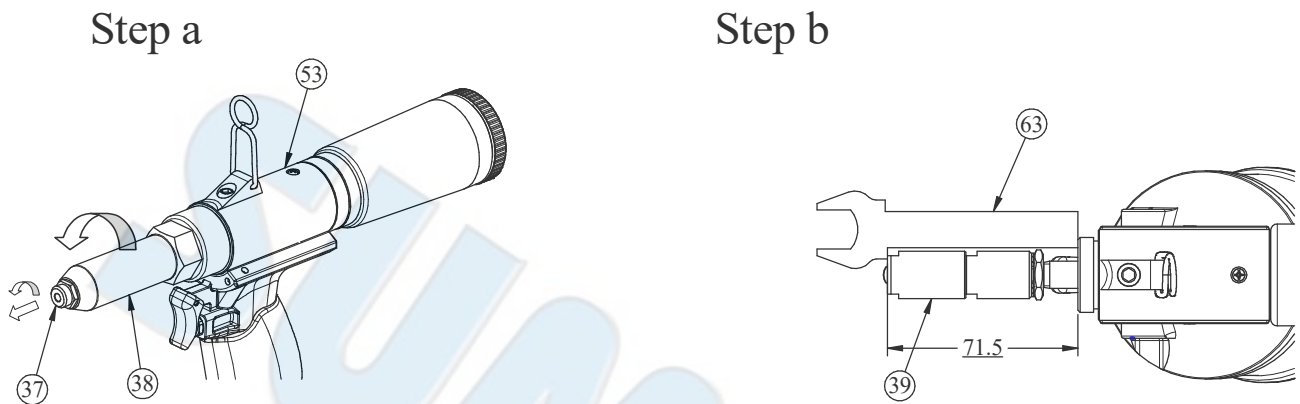

Fig. 2 Detail illustration of change the nosepiece,
FIG. 2 DETAIL ILLUSTRATION OF CHANGE THE NOSEPIECE, .....	4
- a. Loosen and remove the nosepiece (Index 37 in Figs. 2 & 5), then set up the desired nosepiece (Index 37~37-2 in Figs. 2 & 5) on frame head as shown in Fig. 2;